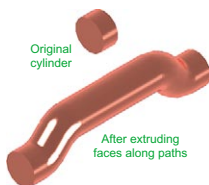

Fig. 18.3 First example – **Extrude faces tool**
### First example – Extrude faces tool (Fig. 18.3)
2. In a **ViewCube/Right** view, construct a cylinder of radius **30** and height **30** (Fig. 18.3).
8. Add lights and a material and render the 3D model (Fig. 18.3).